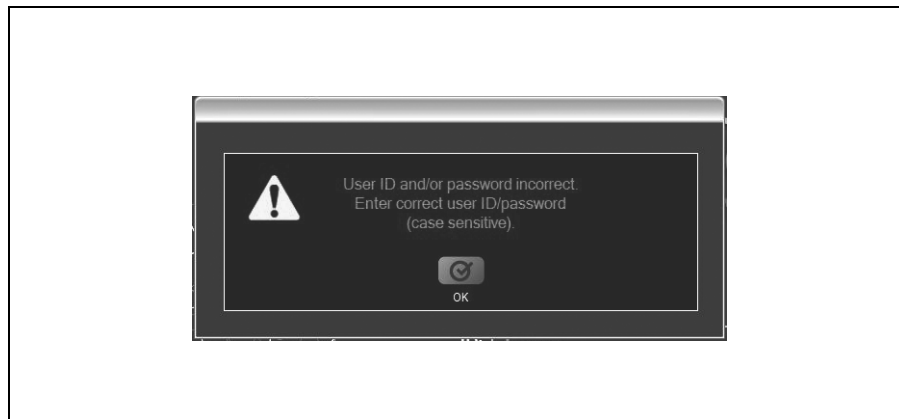

Figure 4.29
- Only the user who was most recently logged in can regain access. If another user attempts to unlock the system, the error message in Figure 4.29 will be displayed.